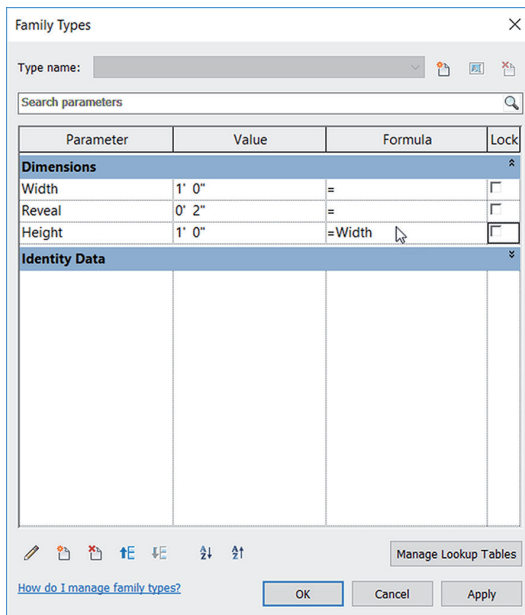

FIGURE BC2.9: The Height parameter is now constrained to the Width parameter.
3. Type Width, and press the Tab key (see Figure BC2.9).